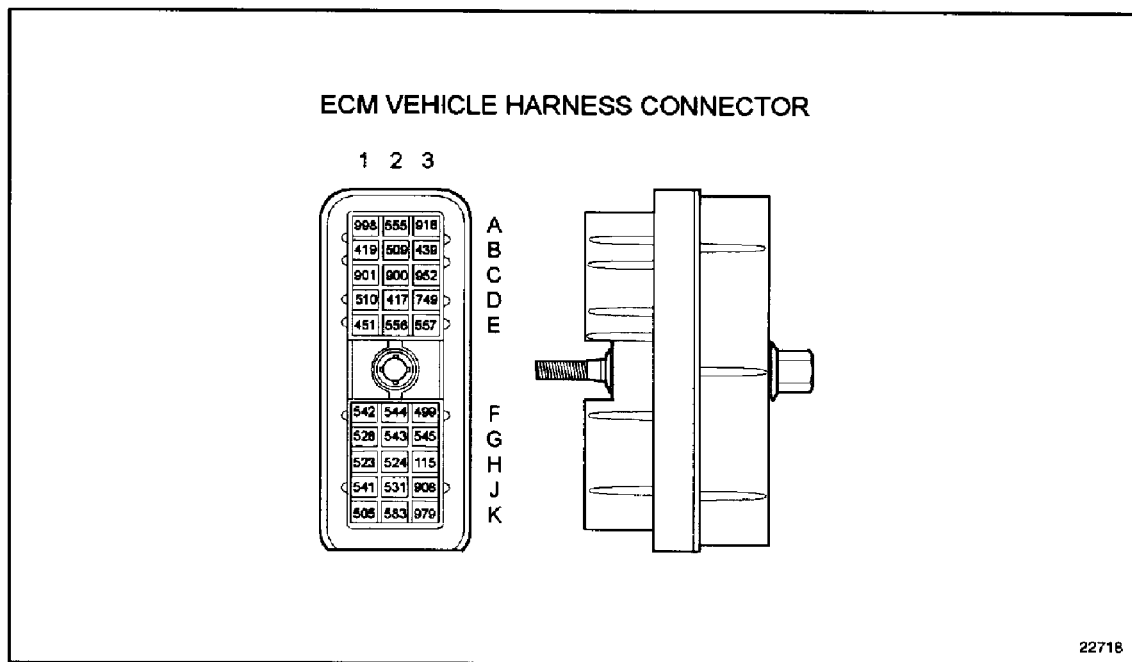

Figure 54-1 ECM Vehicle Harness Connector
2. Measure resistance of VSS circuit across vehicle harness connector pins, E2 to E3. See Figure 54-1.
2. Measure resistance between vehicle harness connector terminals E2 and E3. See Figure 54-1.
1. Measure resistance of VSS across vehicle speed sensor connector pins. See Figure 54-1.